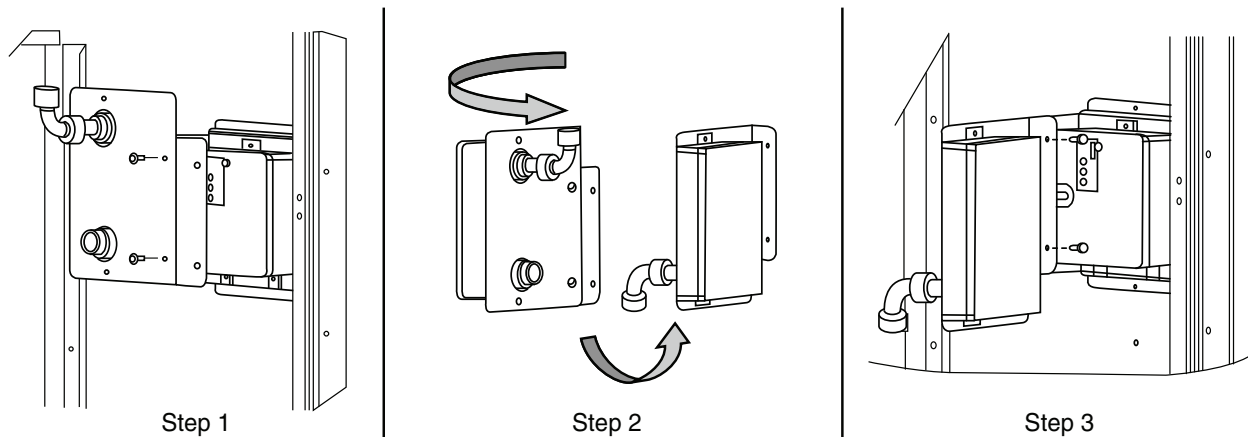

Fig. 58 — Completing Installation of Return Air Smoke Sensor
1. Unscrew the 2 screws holding the return air smoke detector assembly. See Fig. 58, Step 1. Save the screws.
2. Turn the assembly 90 degrees and then rotate end to end. Make sure that the elbow fitting is pointing down. See Fig. 58, Step 2.
3. Screw the sensor and detector plate into its operating position using screws from Step 1. See Fig. 58, Step 3.